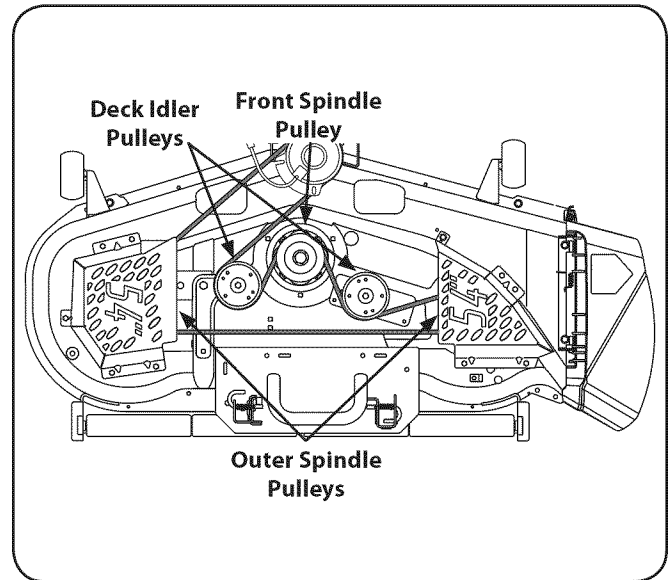

Figure 7-8
5. To place the new belt, begin by routing the belt around the two outer spindle pulleys, then around the front spindle pulley as shown in Fig. 7-8.
6. Route the belt around the two deck idler pulleys as shown in Fig. 7-8.